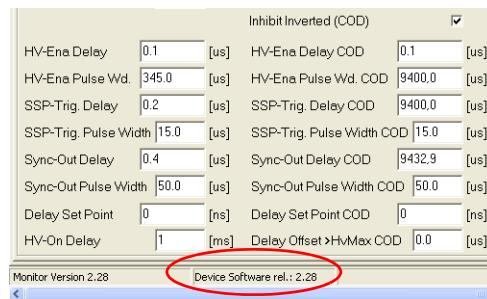

Figure 125: Laser software version display
24. Make sure that the laser software version indicated in the bottom line of the screen is correct (see Figure 125).